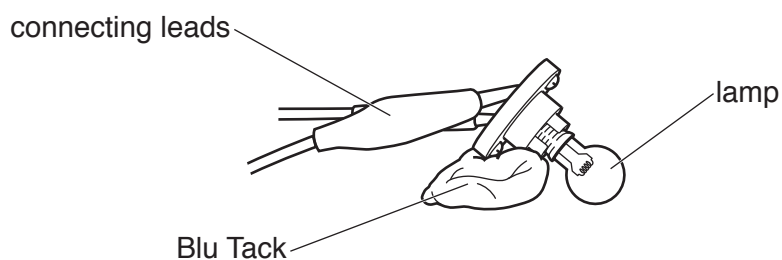

Fig. 3.1
1. One small torch lamp, of approximate diameter 1 cm, 2.5V, 250 mA, filament indicator lamp, clear e.g. RS 106-313, placed in a lamp holder e.g. RS 171-2503. The lamp holder must be fixed to the bench with a piece of Blu Tack and tilted as shown in Fig. 3.1.